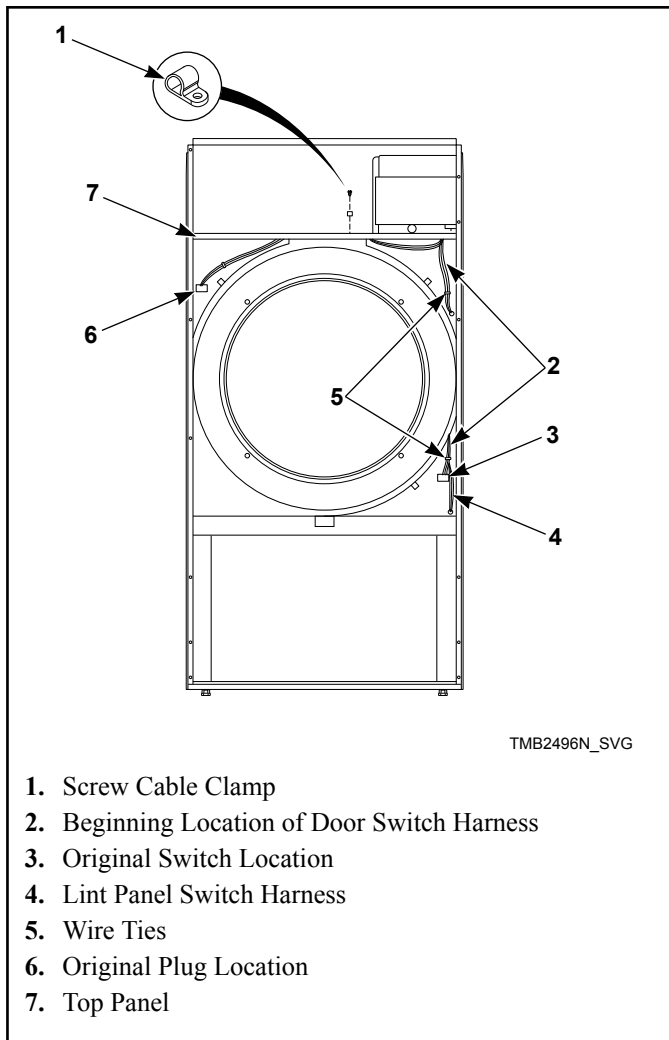

Figure 9
7. Cut wire ties to remove door switch harness bundle. Be careful not to damage harness wires. Refer to *Figure 9*.